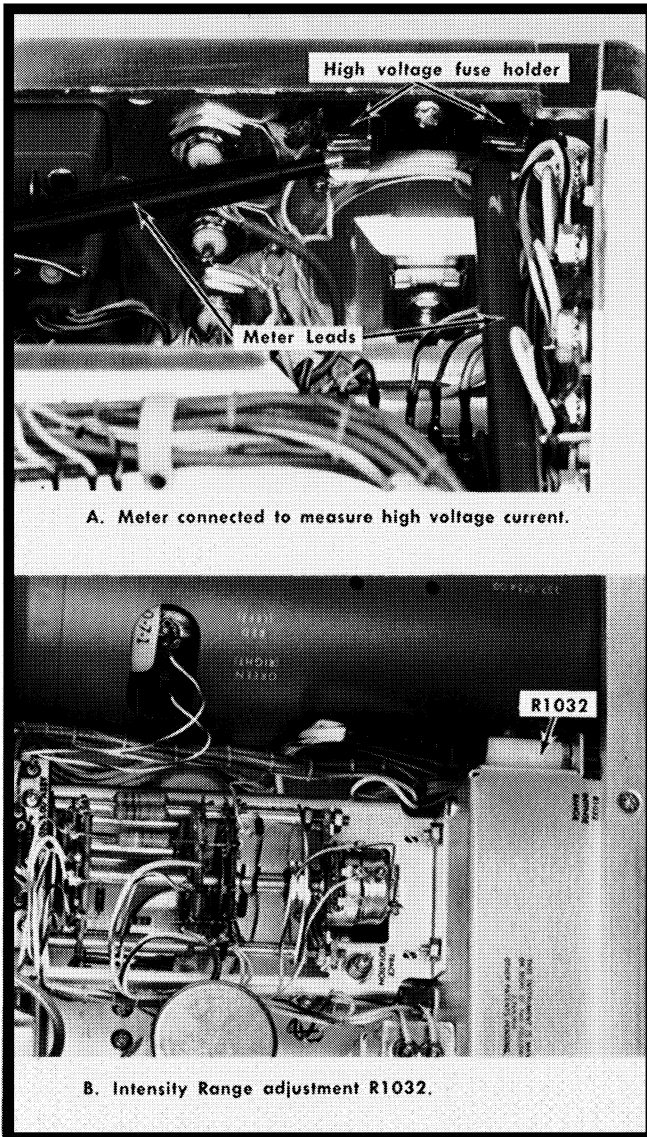

Fig. 6-7. Setting the high voltage current.
c. Connect an ammeter across the fuse holder (Fig. 6-7). Set the ammeter range to 1A.